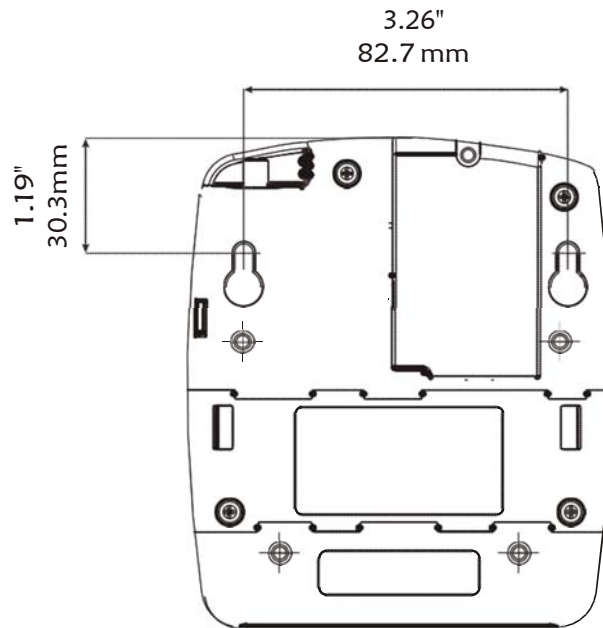

Figure 5
3. Attach the unit to the wall, fitting the two key hole shaped cavities on the back cover of the unit over the screws and sliding it down. (See Figure 5.)